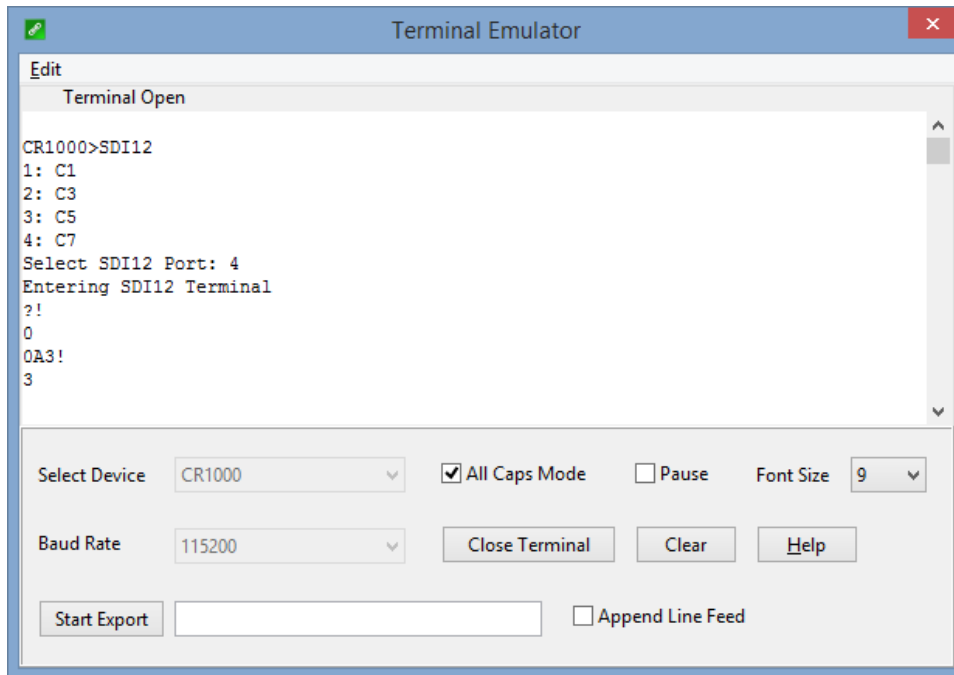

FIGURE D-1. CR1000 example of using the SDI-12 transparent mode to change the SDI-12 address from 0 to 3. Sensor is connected to control port 1.
10. To change the SDI-12 address, type **aAb!**, where **a** is the current address from the previous step and **b** is the new address (see FIGURE D-1 (p. 35). Press **Enter**. The sensor changes its address and responds with the new address.